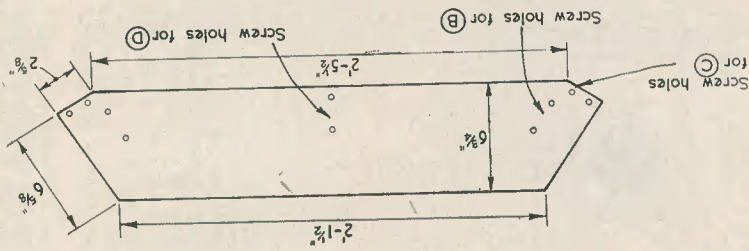

FIG. 7.
on top: it should be supported at the ends by strips of wood 10in.  $\times$  1in.  $\times$   $\frac{1}{2}$ in. nailed to the insides of the ends *A*. (Fig. 7). The wooden sub-cabinet previously made should be temporarily fixed in the middle at a distance of 3in. from the top end (see section drawing).
- 2 ends A as FIG. 7. -----2'-10" x 6 3/4" x 5/8"